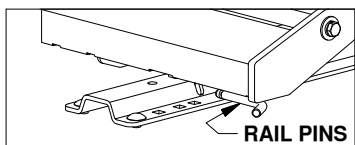

Figure B2: View of base leg.
2. **Insert pins.** Locate the four rail pins and hairpins. Insert each pin into the corresponding slot on the universal rail kit and through the Patriot Slider base pin tabs. Lock each pin into place with a hairpin, see Figures B2 & B3.